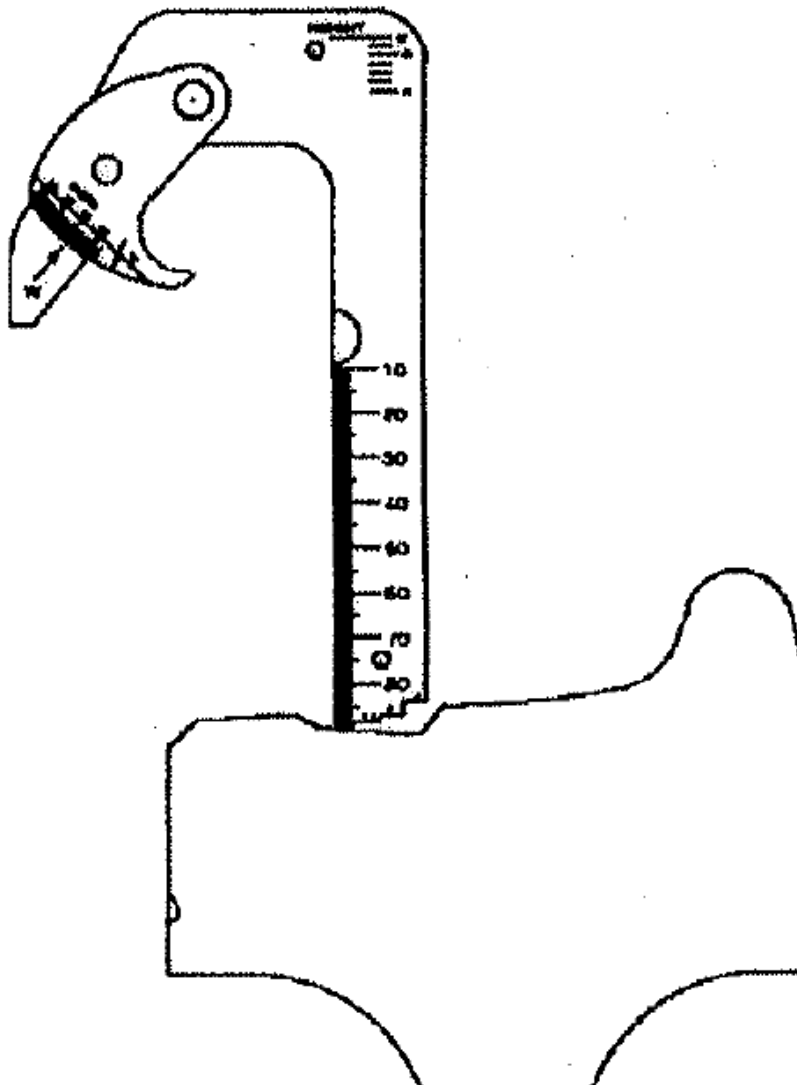

FIG 6. Measuring the depth of a defect
1. Place the end of the gauge into of next to the defect, as shown in Fig. 6, below.